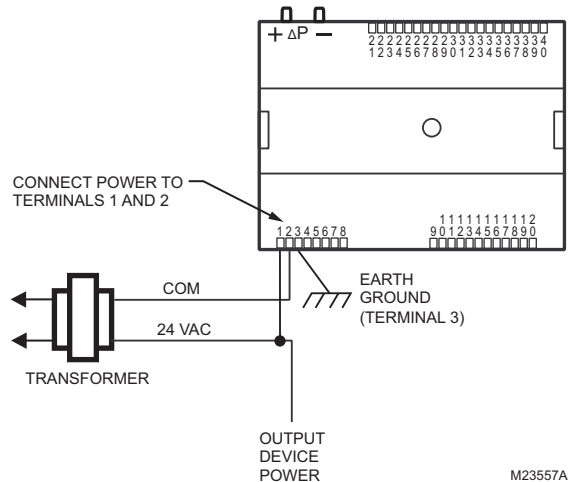

Fig. 4. Power wiring details for one controller per transformer.
See Fig. 4–Fig. 6 beginning on page 6 for illustrations of controller power wiring. See Table 4 for VA ratings of various devices.
- Keep the earth ground connection wire run as short as possible (refer to Fig. 4–Fig. 6 beginning on page 6).
- Do not connect earth ground to the device's digital or analog ground terminals (refer to Fig. 4 and Fig. 6).
- Do not connect the universal input COM terminals, analog output COM terminals or the digital input/output COM terminals to earth ground. Refer to Fig. 4–Fig. 6 for wiring examples.
Fig. 4 depicts a single controller using one transformer.